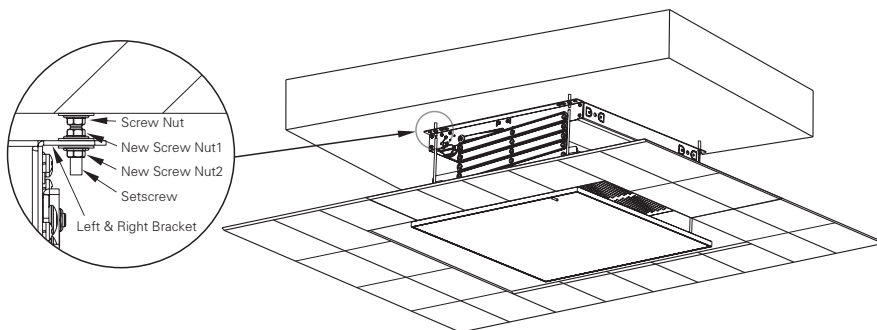

Figure 8
5. Figure 8, Add the M8 Screw to fasten the mount bracket.